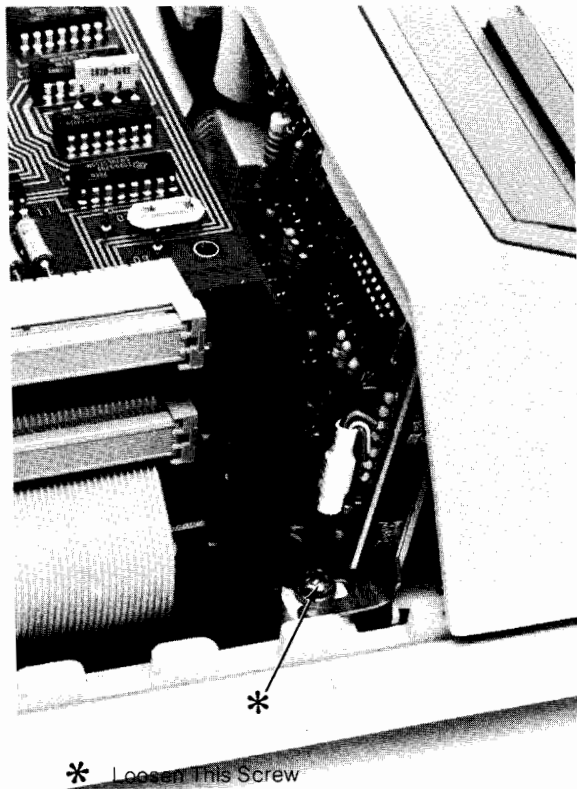

Figure 2-3A Left Hand Bezel Retaining Screw
1. Loosen the two bezel retaining screws shown in Figures 2-3A and 2-3B. Do not remove these screws, three or four turns should be sufficient.